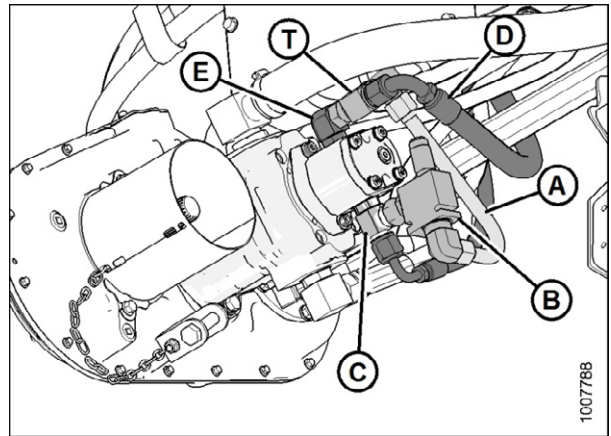

Figure 6
9. Reconnect the 1 in. hose (A) to port (S) on the manifold.
10. Tighten hose (A) at the pump fitting connected previously. Refer to Figure 6.